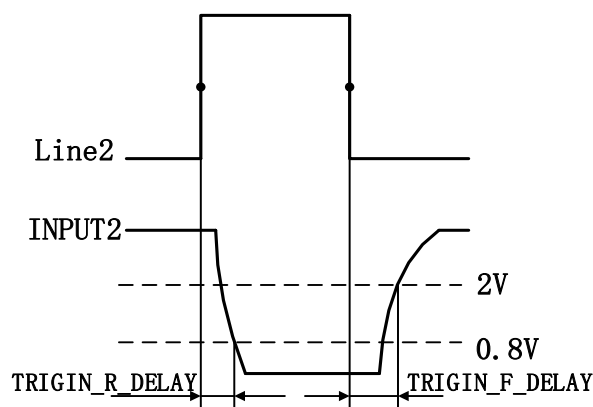

Figure 2-4 Time delay parameter of the circuit when Line2 is configured as input
- Input signal rising delay: <2μs (0°C~45°C), parameter description as shown in Figure 2-4.
- Input signal falling delay: <2μs (0°C~45°C), parameter description as shown in Figure 2-4.